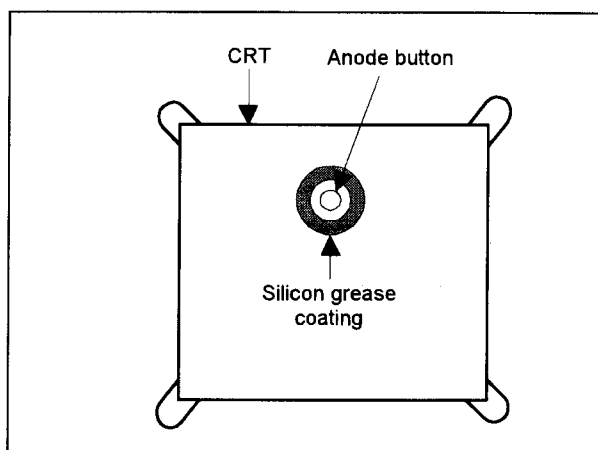

Fig. 6
- Subsequent to replacement of the CRT and HV transformer or repair of the anode cap, etc. by dismantling them, be sure to coat silicon grease for electrical insulation as shown in Fig.6.
Wipe around the anode button with clean and dry cloth. (Fig.6)